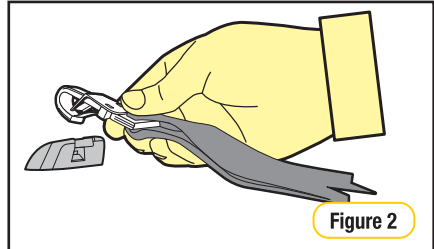

Figure 2
Step 4: Hook the attachment clip to the anchor fitting. Ensure there are no twists in the top tether strap (Refer to figure 2)